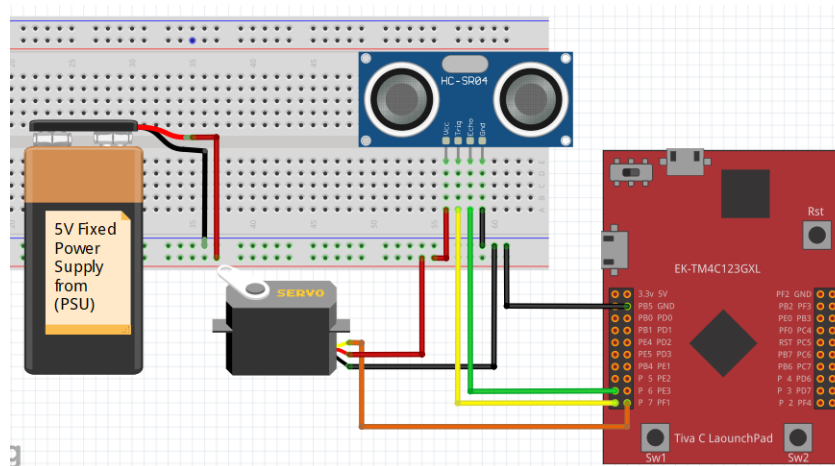

Figure 4: Pin Connection of TivaC with Ultrasonic Sensor and Servo
- 1 Make the pin connections between TivaC, SG90 and Power Supply using Table. 1 by using Power Supply 5V fixed terminal to provide 3.3V to servo. You can also use Fig. 4 to see how we provide power to our servo from PSU. **DO NOT USE 3.3V OF TIVA-C TO POWER SERVO AS IT MAY DAMAGE IT.**